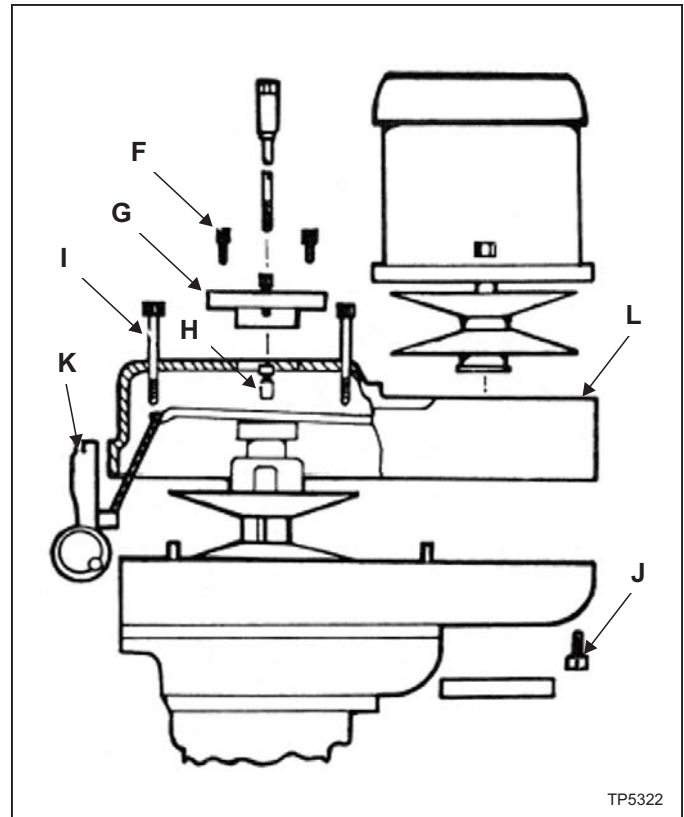

Figure 3.3 - Drive Belt Replacement
2. Remove the three screws "F", Figure 3.3, insert into the adjacent tapped holes and withdraw bearing housing "G".